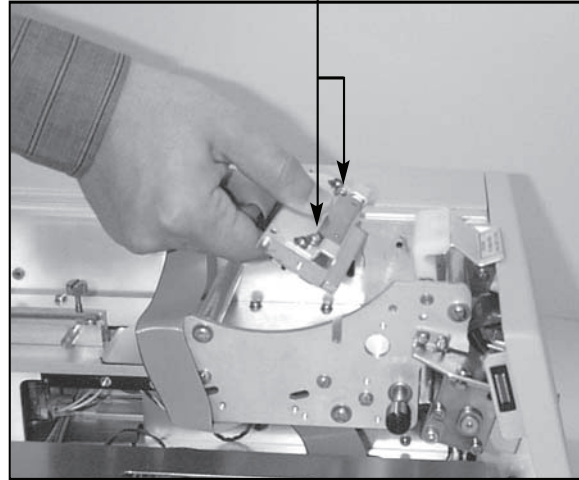

Figure 9b - Print Head removal
4. Lift up the head mounting block/thermal head to remove. (see **figure 9b**)
9. To replace print head remove ribbon connector from print head and then remove print head from mounting block by removing two unmarked screws. (see **figure 9b**)